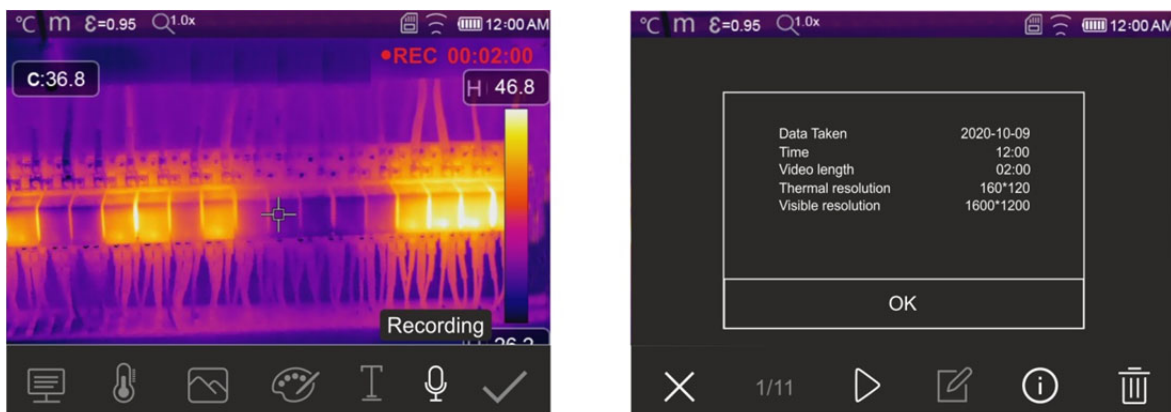

Fig. 50: IR video recording
2. **Press and hold key T (Trigger) for at least 2s.** The indication and the elapsed time are shown at the top of the display to indicate that recording is in progress (see Fig. 50 – left side).